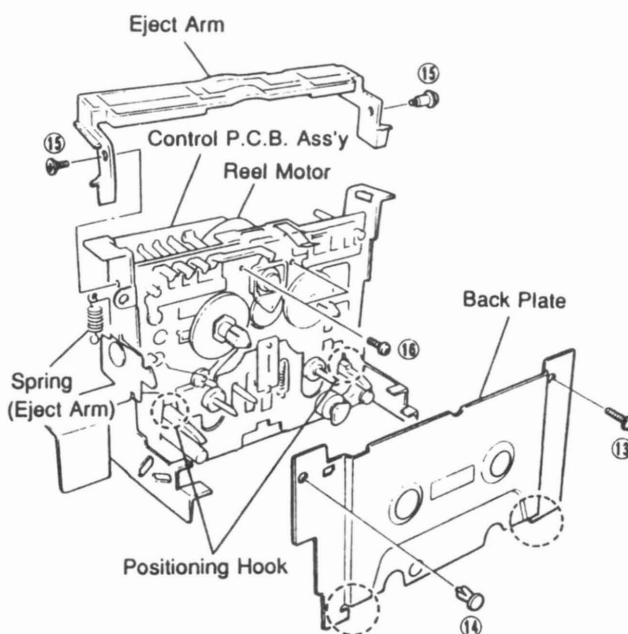

Fig. 7
- Remove 1 screw (⑬) and 1 plastic rivet (⑭) in Fig. 7.
(*When reinstalling it, be sure to fit its lower ends to the positioning hooks in Fig. 7.)
- Detach the spring (Eject Arm) in Fig. 7.
- Remove 2 special screws (⑮) and then remove the Eject Arm in Fig. 7.
- Remove 2 screws (⑯) and then remove the Reel Motor in Fig. 7.